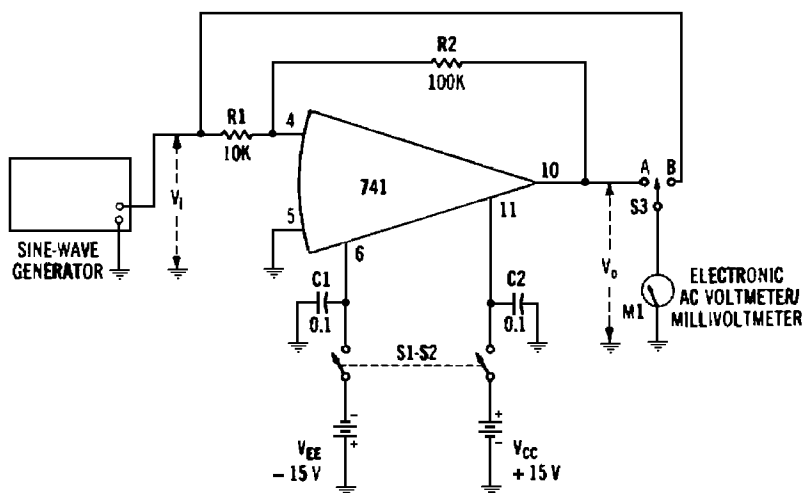

Fig. 2-16. Closed-loop frequency response.
### Required Equipment (Fig. 2-16)
1. With switch S1-S2 open, switch S3 set to position B, and the generator off and its output attenuator set to zero, set up the test circuit as shown in Fig. 2-16.